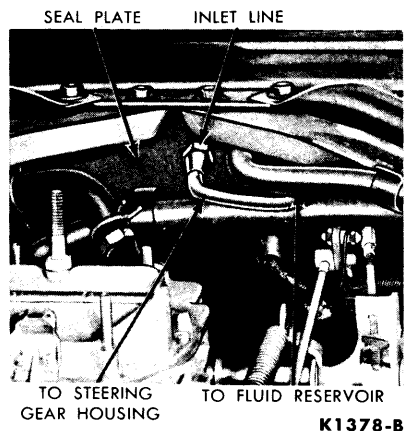

FIG. 7—Wiper Motor Hydraulic Line Connections
7. Disconnect the hydraulic line under the hood (Fig. 7). Be careful not to burn the hands with the hot hydraulic fluid.